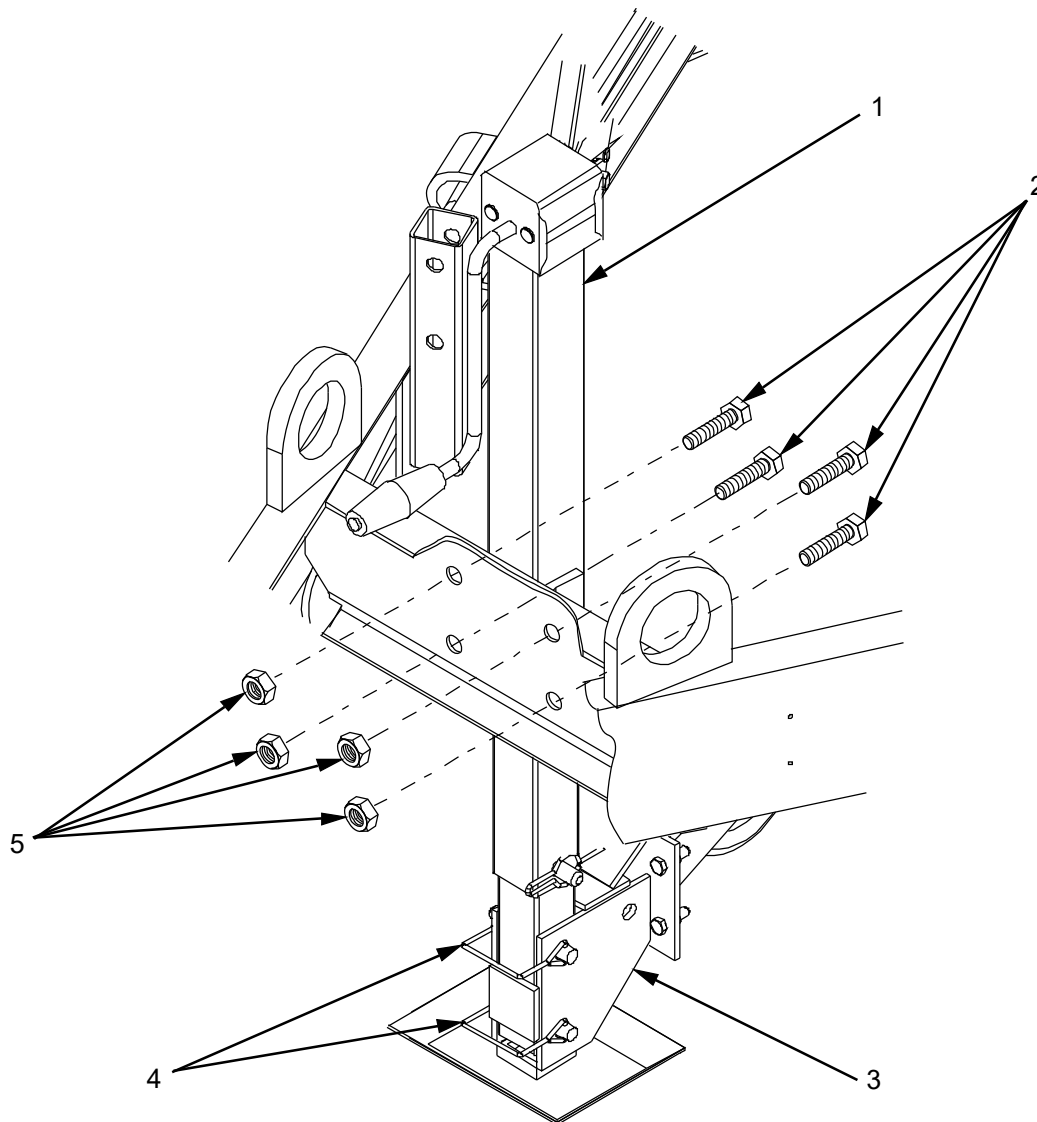

Figure 3. Tongue Jack Assembly Removal/Replacement.
3. Raise tongue jack assembly (Figure 3, Item 1) until skid plate assembly (Figure 3, Item 3) is off the ground.
4. Remove two mounting pins (Figure 3, Item 4) and remove skid plate assembly (Figure 3, Item 3).
If replacing only the skid plate assembly (Figure 3, Item 3) by-pass step 5.
5. Remove four bolts (Figure 3, Item 2) and lock nuts (Figure 3, Item 5) from tongue jack assembly (Figure 3, Item 1)
6. Remove tongue jack assembly (Figure 3, Item 1).
Ensure tongue jack assembly (Figure 3, Item 1) is compressed to the fully closed position.
1. Install tongue jack assembly (Figure 3, Item 1) and secure to trailer assembly with four bolts (Figure 3, Item 2) and lock nuts (Figure 3, Item 5).
2. Install skid plate assembly (Figure 3, Item 3) and secure to tongue jack assembly (Figure 3, Item 1) with two mounting pins (Figure 3, Item 4)
If necessary, grease tongue jack assembly (Figure 3, Item 1).
3. Raise and lower tongue jack assembly (Figure 3, Item 1) to verify operation.
4. Lower tongue jack assembly (Figure 3, Item 1) until the skid plate assembly (Figure 3, Item 3) on the ground.
5. Raise the trailer using the tongue jack assembly (Figure 3, Item 1), remove tow vehicle or trailer stand and level trailer.